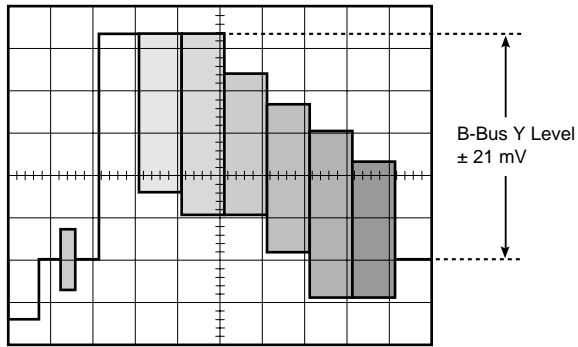

Fig. 4-1
- Adjust VR2 so that the Luminance signal level becomes same level ± 21 mV as B-Bus Luminance signal level as shown in Fig. 4-1.